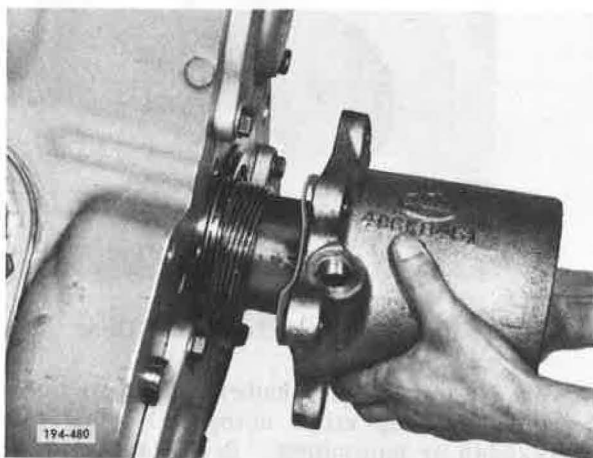

Figure 5-716. Removing Cover
4. Remove rear mainshaft rear bearing cover. See **Figure 5-716**.